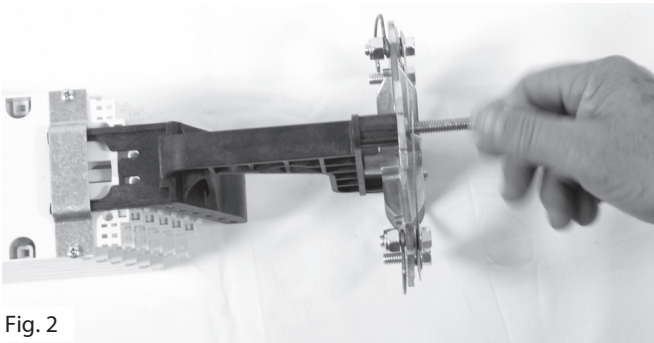

Fig. 2
2. Remove the bolt on the underside of the tray support and replace it with the fully threaded 5/16 x 2-1/2" bolt. (Fig. 2)